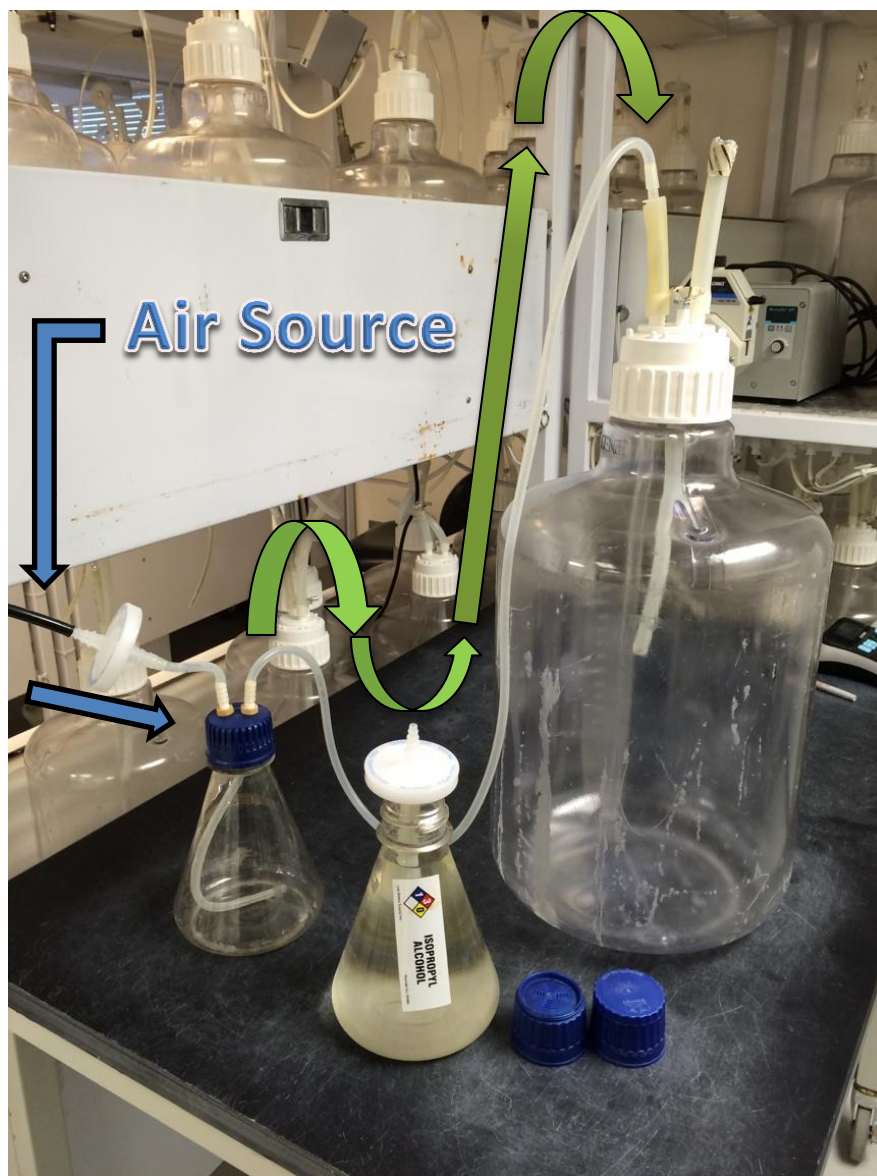

Figure 7 – Set up of air flow to transfer the culture into carboy.
2.3.2.6. Connect the filter of the transfer top to an air source and let the culture transfer/flow completely to the carboy. See figure 7.